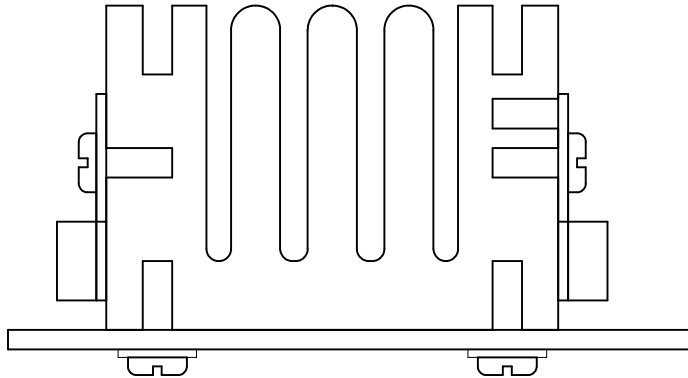

Figure 41: Assembly drawing of the heatsink onto which the stepper motor driver ICs are mounted.
- U_6 and U_7 are mounted on a substantial heatsink. The heatsink assembly is shown in Figure 41.